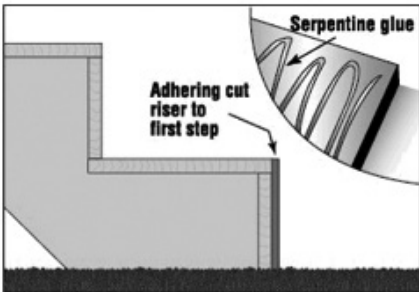

Fig. 15
2. Glue in place by applying a 3" (7.6 cm) serpentine bead of construction adhesive to the back of the flooring (Fig. 15). Refer to construction adhesive label for all recommendations, warnings and safety precautions.